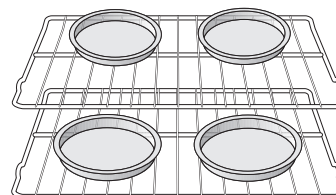

Fig. 41 Multiple rack pan spacing
- For best results when baking cakes using 2 racks, place cookware on oven rack positions 2 and 4. (Figure 41)